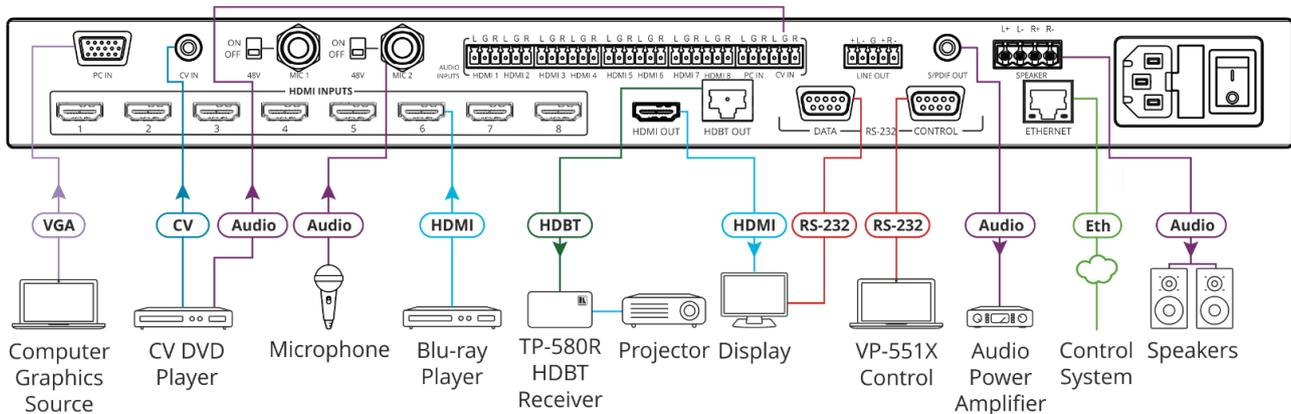

Figure 3: Connecting to the VP-551X Rear Panel
To connect the VP-551X as illustrated in the example in Figure 3:
3. Connect up to 8 HDMI sources (for example, a Blu-ray player to HDMI 5) to the HDMI connectors (12).
4. Connect up to 10 balanced audio sources (for example, the PC audio source to the CV IN AUDIO INPUT) to the AUDIO IN terminal block connectors (21).
5. Connect a microphone to the MIC 2 6mm jack (18) and set the 48V switch on or off, as required (14).
6. Connect the HDMI OUT connector (28) to an acceptor (for example, a display).
7. Connect the HDBT OUT connector (28) to an acceptor (for example, Kramer TP-580R receiver that is connected to a projector).
8. Connect the S/PDIF OUT 3.5 mini jack connector (28) to a digital audio acceptor (for example, an audio power amplifier).
9. Connect the SPEAKER 4-pin terminal block connector (24) to speakers (for example, Kramer Yarden 6-O speakers).
10. Connect the RS-232 DATA 9-pin D-sub connector (30) to the RS-232 port on the display to control it.
11. Connect the RS-232 CTRL 9-pin D-sub connector (31) to the RS-232 port on a controller (for example, a laptop) to control the VP-551X.
12. Connect the ETHERNET RJ-45 port (32) to the Ethernet.
13. Connect the power cord to the VP-551X mains socket (13) and to the mains electricity (not shown in Figure 3).
The LINE OUT 5-pin terminal block connector (22), audio acceptor, and power cord are not shown in Figure 3.